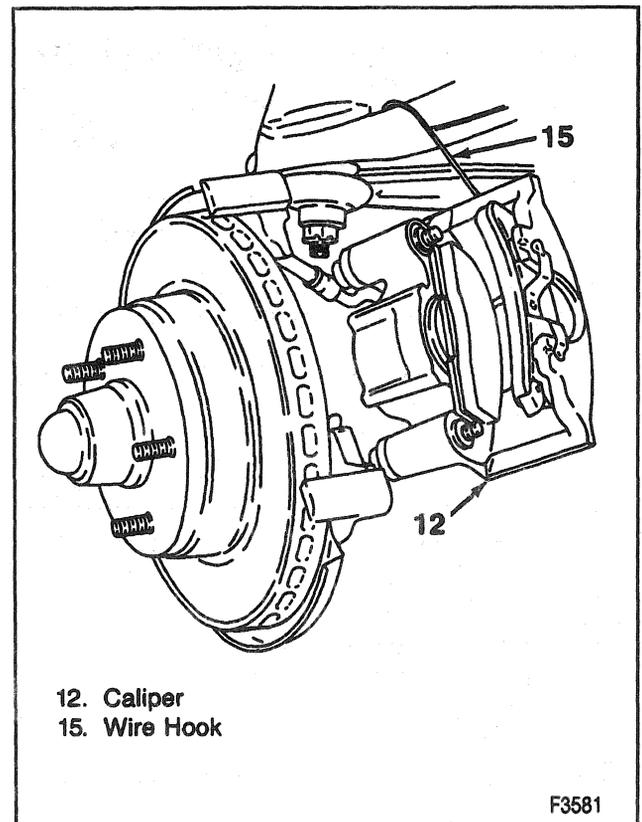

Figure 6—Suspending the Caliper
↔ Remove or Disconnect (Figures 6 through 14)
- Suspend the caliper (Figure 6).